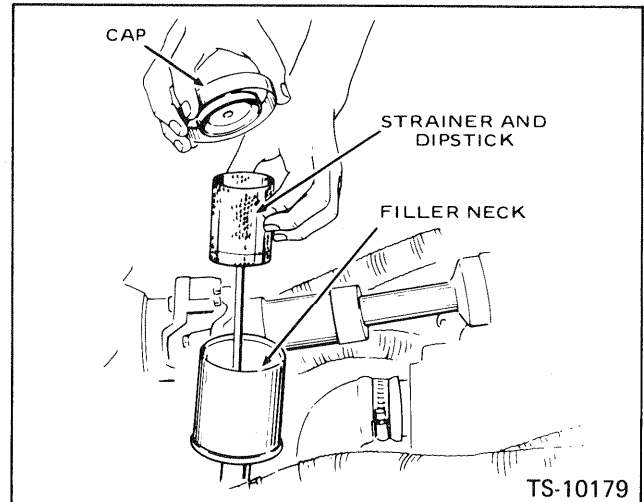

Fig. 9-1 Transmission Filler Neck, Cap, Dipstick and Strainer
Remove the floorboard in the operators compartment. Remove the filler cap from the filler neck, (See Fig. 9-1 for the position of the filler neck). Pull out the strainer and dipstick with a clean, lint free cloth. Re-insert to check the fluid level, pushing the strainer and dipstick down firmly. The fluid level must be at the FULL mark on the dipstick. If the fluid level is below the FULL mark, re-insert the strainer and dipstick, making sure that the strainer is clean and free from foreign material and fill as necessary.
7. Refill the transmission and torque converter with the type of fluid specified in this manual through the filler neck (Fig. 9-1) until the correct level shows on the dipstick. Approximate capacity — 4.5 gallons (Imperial measure), 5.4 gallons (U.S. measure).
10. Refill the transmission and torque converter restart and run the engine for 5 minutes at approximately 1,500 rpm, checking the filter assemblies, drain plug, hoses and connections for leaks. Recheck the transmission fluid level when it is at operating temperature (180° F. to 200° F.). Add fluid as necessary. Fig. 9-1.